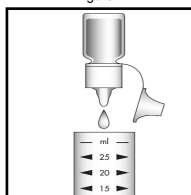

Figure 2
2. Add 5 drops of A-6000 Activator Solution (fig 2). Stir to mix the contents of the cup.